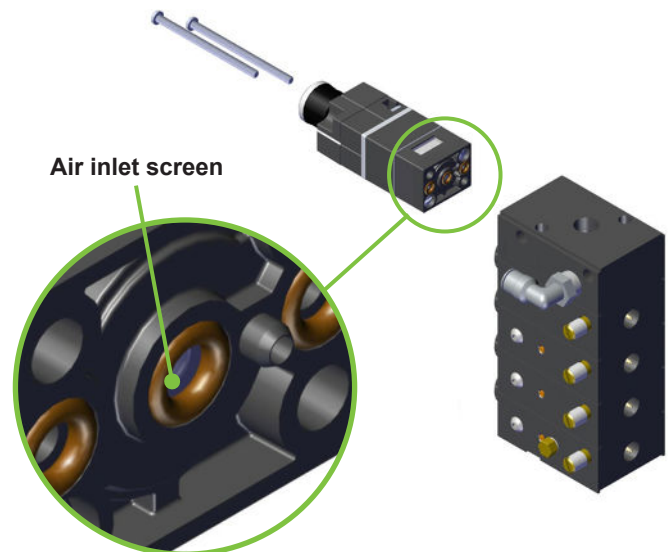

Figure 50: Air inlet screen
- Inspect the pulse generator inlet screen for debris. (See Figure 50).